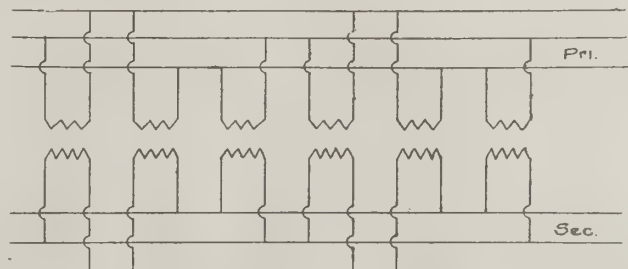

FIG. 1. CONNECTIONS FOR SIX SINGLE PHASE TRANSFORMERS.
(1) If I have six single phase transformers connected in parallel as shown in Fig. 1, and any one or two transformers are damaged regardless of their position in the group, would it be possible to disconnect the damaged one or ones and continue operating the remaining transformers without changing the connections? Would the phase relations remain the same and what would be the capacity of each transformer in per cent of the capacity for normal connection when one and when two transformers are disconnected?